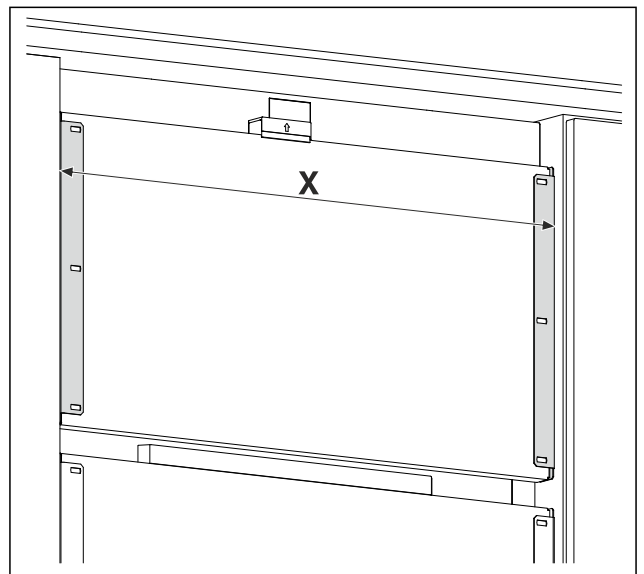

Fig. 18 Example illustration
- ▶ Measure the distance Fig. 18 (X) between the outer edges of the retaining brackets.